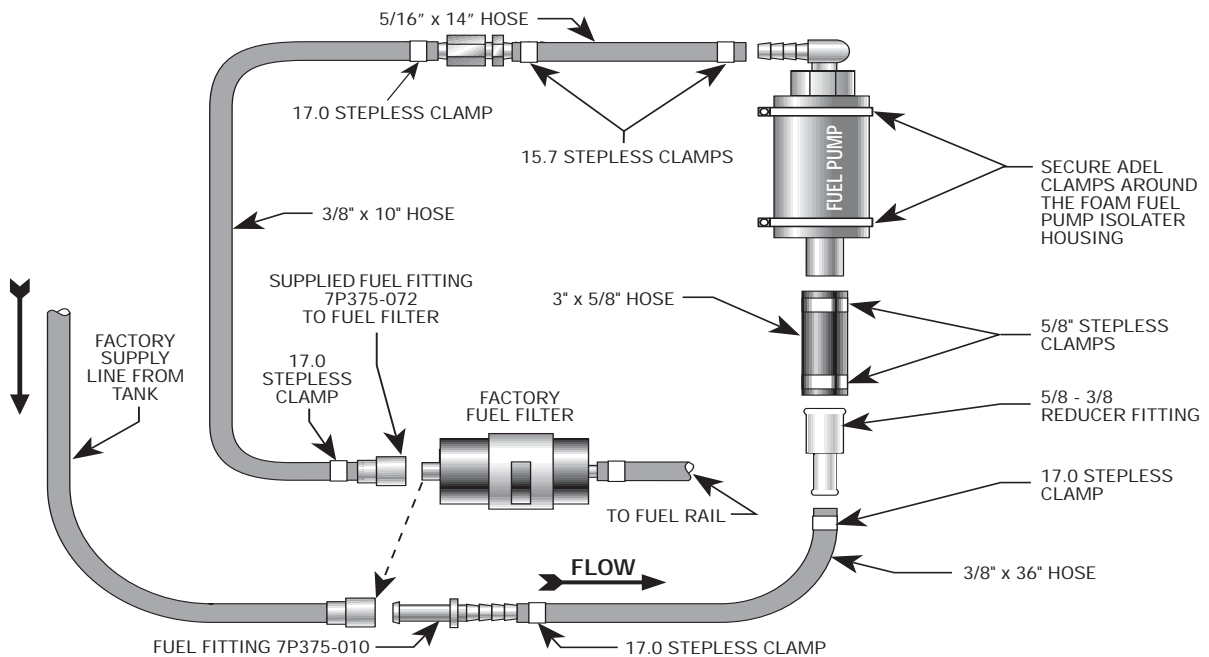

Fig. 13-a
- B. Locate the fuel relay box underneath the vehicle rear seat floor pan. Disconnect the two plugs entering the box. Trim the "cut-out" from the supplied template on page 16 (see Fig. 13-b) and place over the fuel relay. Center punch and drill the two holes 17/64" in diameter. Reinstall the factory relay plugs .
- C. Secure the fuel pump/line assembly to the vehicle with the supplied adel clamps, nylock nuts, and hardware (see Fig. 13-d).